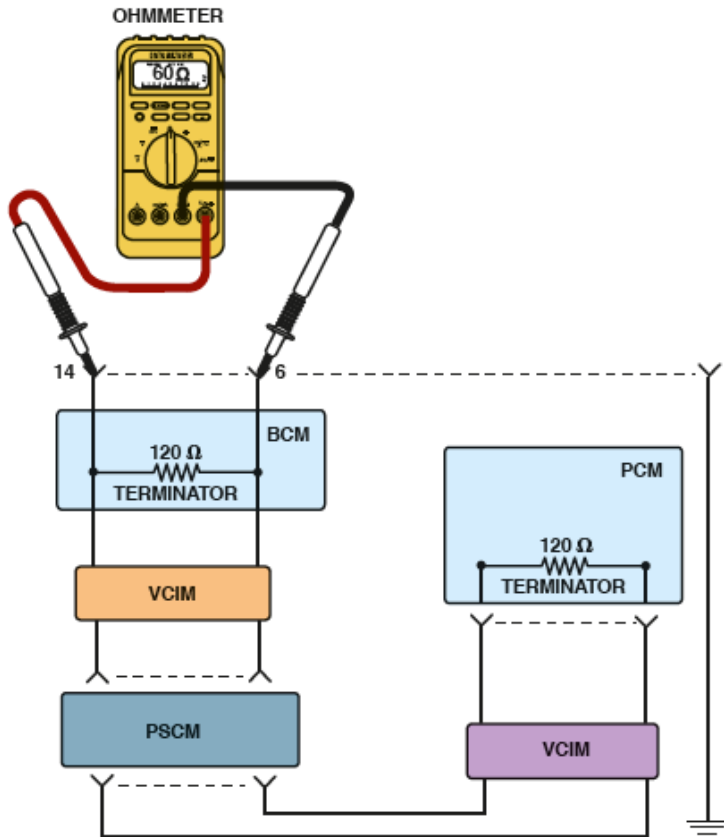

Figure 29. The two 120 Ω terminating resistors in parallel should read 60 Ω.
STEP 3 Check the resistance of the terminating resistors. Most high-speed BUS systems use resistors at each end, called terminating resistors. Figure 29.